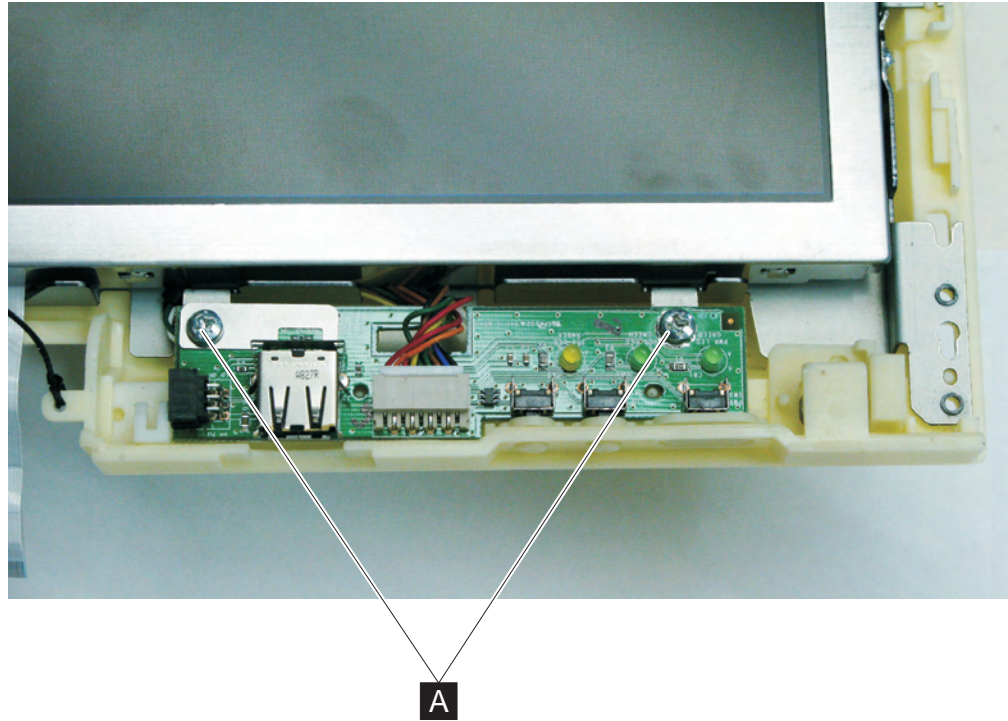

Figure 31. Removing the operator card
3. See Figure 31. Remove the two screws (**A**) and lift out the card.